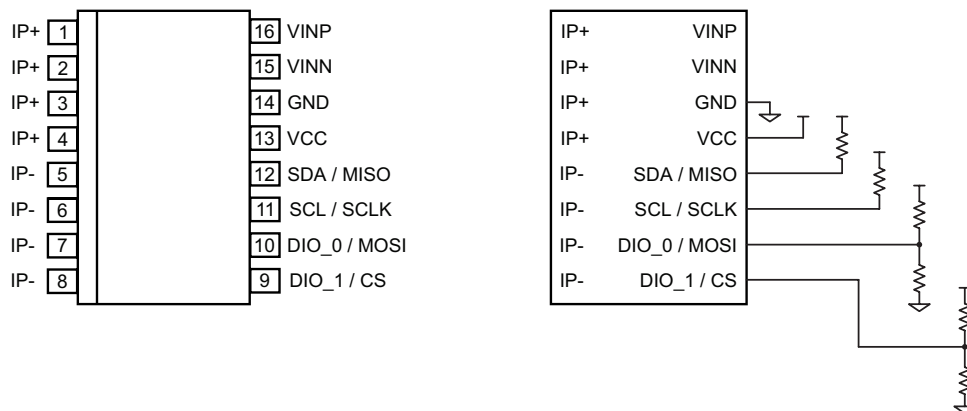

Figure 1. Pinout and I²C Application Circuit Diagram for the ACS71020
The ACS71020 Power Monitoring IC is capable of communicating in either I²C or SPI mode over pins 9 through 12. SPI communication requires four pins but I²C only requires two. If the ACS71020 is configured to output over the SDA and SCL lines for I²C communication, the MOSI (10) and CS (9) pins are freed to take on other functions. Figure 1 shows the pinout of the ACS71020 and an example I²C application circuit.